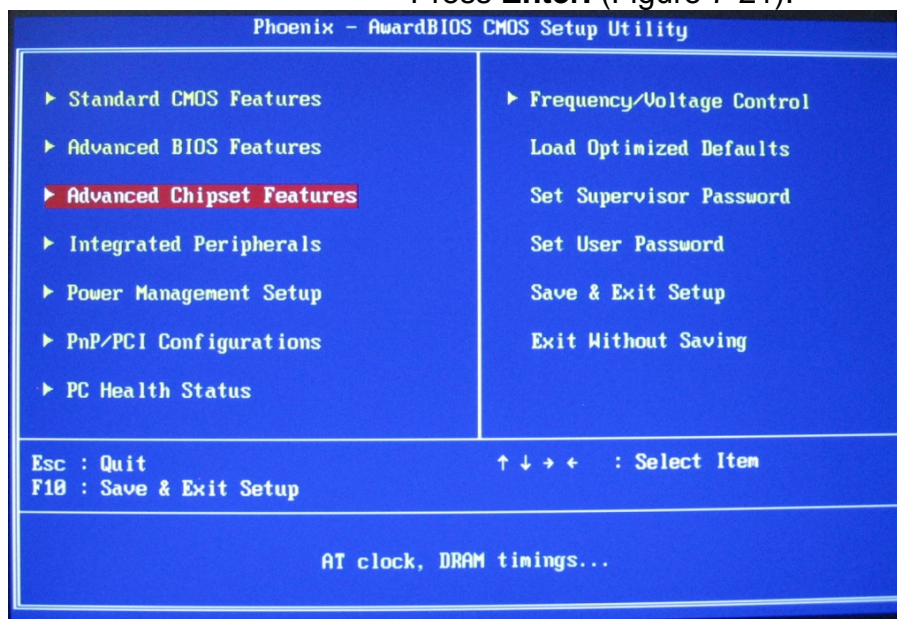

Figure 7-21 Advanced Chipset Features.
11. Press **Escape** to get back to **Main BIOS Utility** page. Select **Advanced Chipset Features**, Press **Enter**. (Figure 7-21).